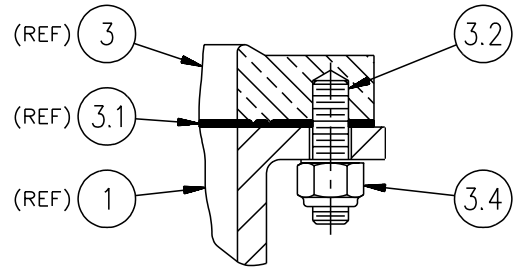

Figure 6
NOTE: Remove the seat ring assembly only if the seat ring (item 3) or the arm (item 4) shows wear or damage. (See Figure 6.)
1. Remove the locknuts (item 3.4).